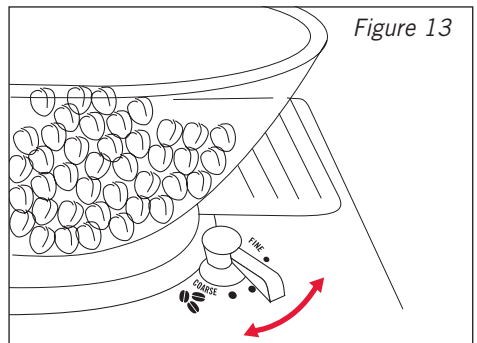

Figure 13
- Set the grinding degree. See figure 13.